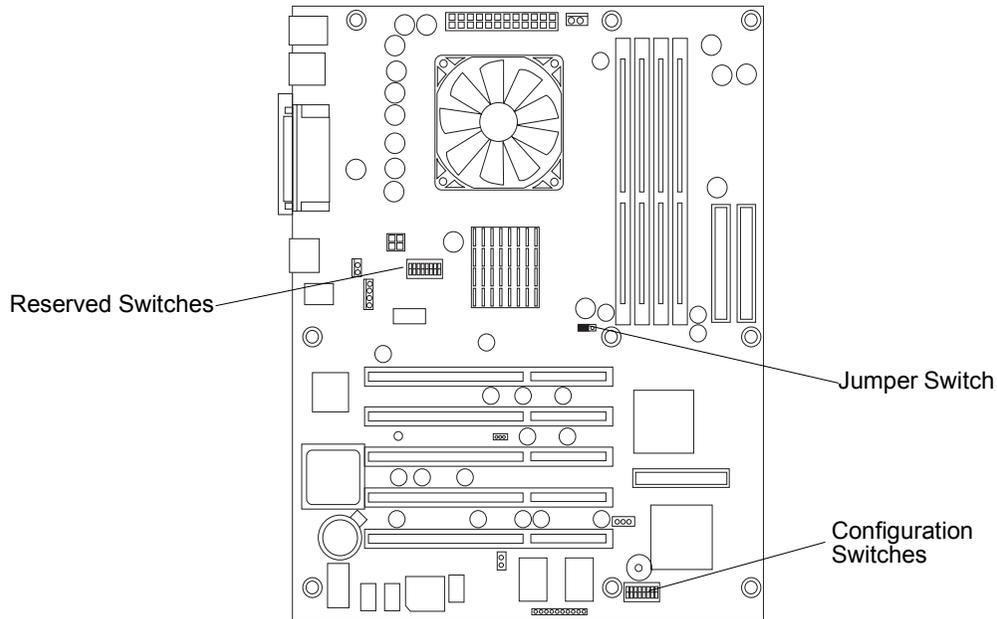

Figure 3-25. Location of Jumper and Dip Switches
2. On the system board, locate the Reserved Switch set and move switch 4 to the Off position. See Figure 3-25 and Figure 3-27.